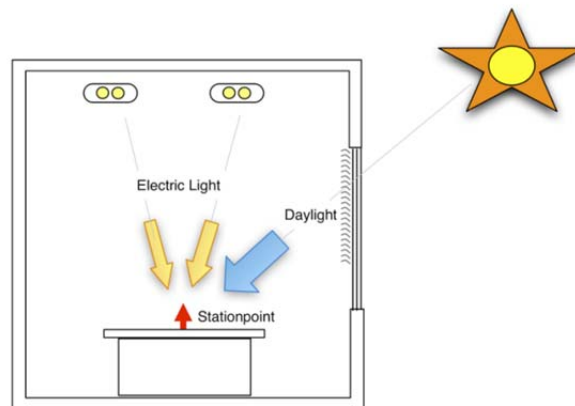

Figure 34: Diagram illustrating factors influencing selection of stationpoint
- Select an appropriate stationpoint in each zone (Figure 34).